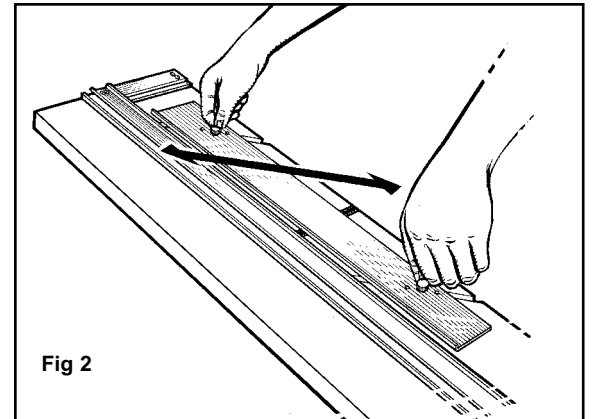

Fig 2
To loosen, turn knobs counterclockwise and slide. **Fig. 2**
2. Set the Mat Guide to the desired border width. For example for a 2” border align the *back* of the Mat Guide at the 2” mark and tighten the Black Knobs. **Fig. 2**
5. Pull the Straight Cutting Head until the bottom scribe line lines up with the bottom border line. Repeat until all borders are cut. **Fig. 2**
3. Place a ruler or straight edge between the Mat Guide and the Guide Rail. **Fig. 2**